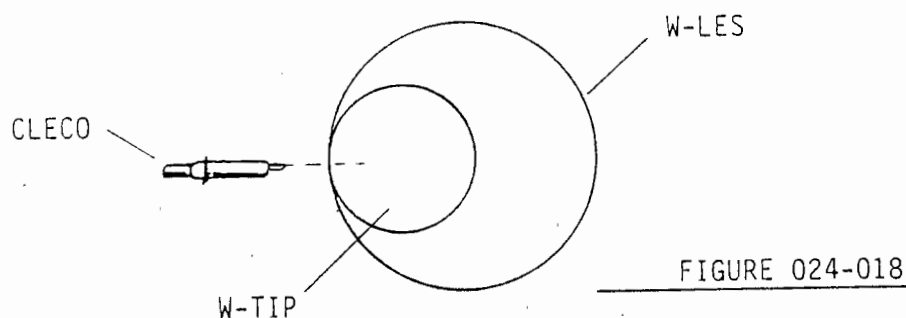

FIGURE 024-018
18. Insert the tip bow's drilled end into the leading edge spar so the tip bow's hole lines up with the fourth inboard hole and cleco. IMPORTANT: The tip bow must be flat against the spar on the inside. See Figure 024-018.